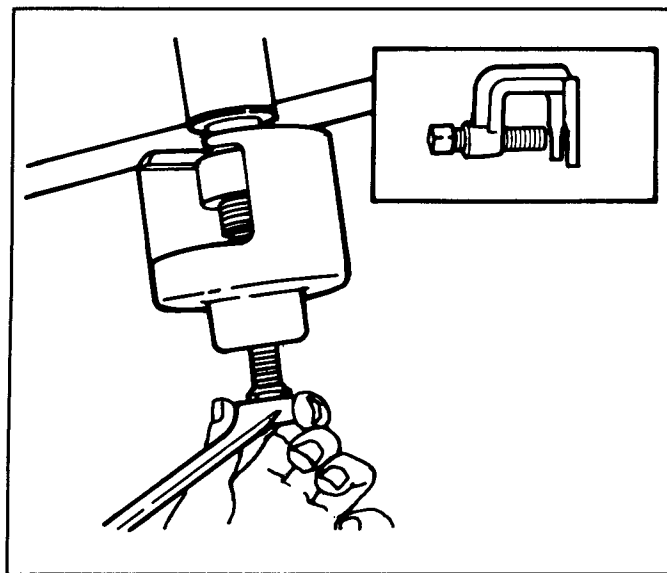

Fig. 3B6-8--Removing Pitman Arm
- Position relay rod on pitman arm. Use J-29193 or J-29194 as shown in Fig. 3B6-6 to seat the tapers. A torque of 20 N·m is required. With the tapers seated, remove the tool, then install a prevailing torque nut, and tighten to 48 N·m (35 ft. lbs.).
- Follow the procedure in Fig. 3B6-5 to set the relay rod height. Torque the idler arm-to-frame mounting bolts to specifications.